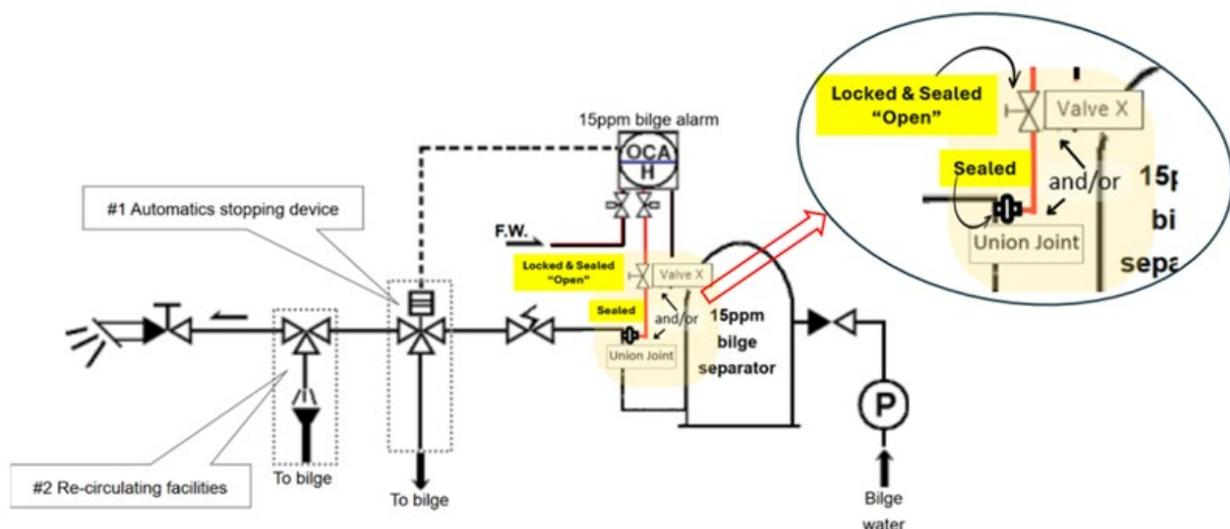

Figure 1 Arrangement where Valve X and/or the Union Joint is Sealed
AA) Where Valve X and/or Union joint is **sealed** (Refer to Figure 1)
• Before entering Australian ports, please ensure that the vessel complies with ①, ② or ③. In addition, even if the measures have been implemented, if there are any discrepancies between the onboard drawings and the actual piping, etc., it is necessary to revise the relevant drawings and have them confirmed by ClassNK (*2).
① Valve X and/or Union joint is **sealed** (Refer to Figure 1)